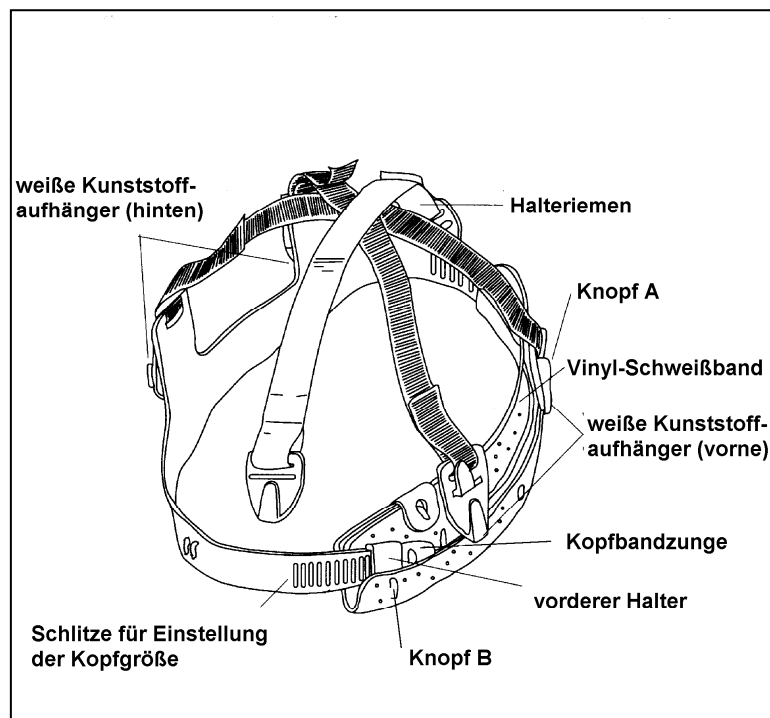

Figure 2: Helmet suspension
(3) Remove the vinyl sweatband.	Unfasten buttons A + B in Figure 2.
(5) Reattach the vinyl sweatband.	Fasten buttons A + B in Figure 2.
Follow the procedure described in 7.2 (see also Figure 2).